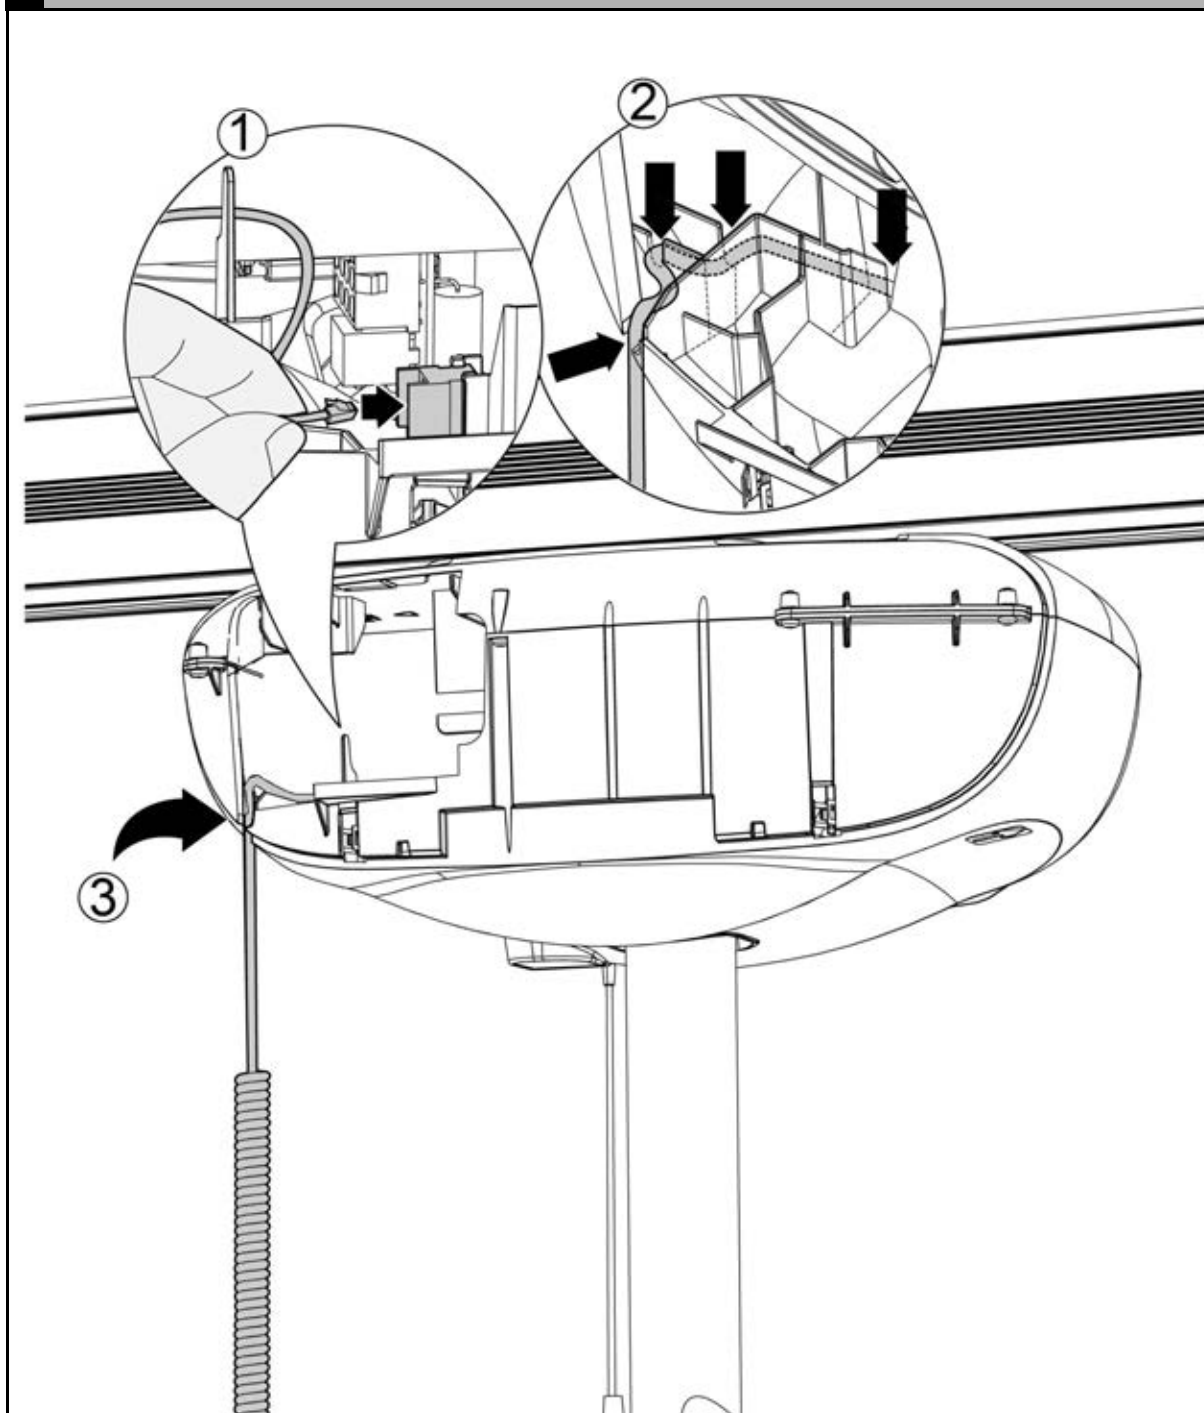

Fig. 19
- ① Slide the clevis pin into the spreader bar connector and the looped end of the strap.
- ② Install the split ring on the clevis pin.
- ③ Reinstall the handset (see Fig. 19).